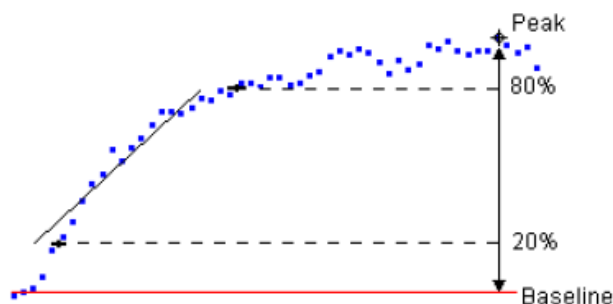

Figure 5-1 Rise slope from 20% to 80%.
- **Rise slope:** The slope, from within the region bounded by the start of the search region and the peak, between the points determined by the associated 'from' and 'to' percentiles. Points to the left of the peak are scanned until points at the nominated percentages of the peak amplitude (relative to the baseline) are found. Regression is applied to these and all intervening points to give the rise slope (see Figure 5-1).